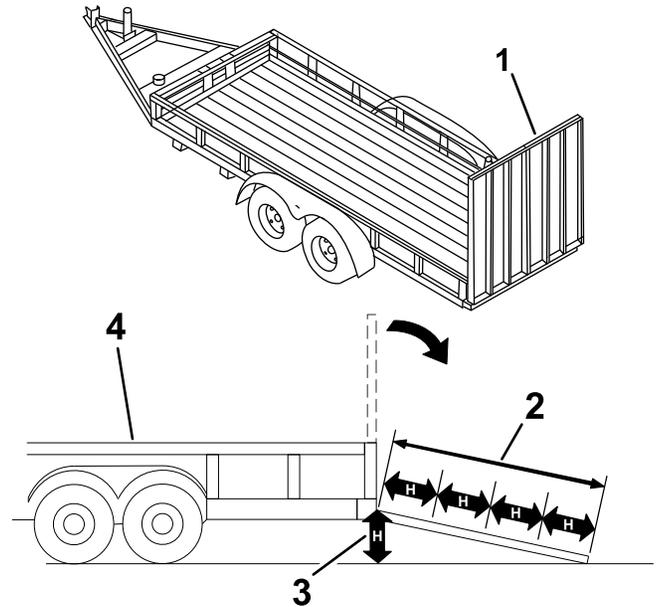

Figure 37
3. Lower the ramp (Figure 37).